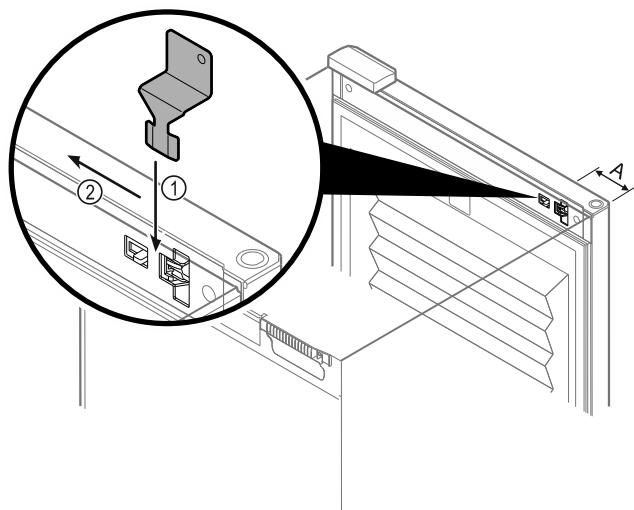

Fig. 101
- Insert the emergency release key in the specified position Fig. 101 (A)  $\approx 100$  mm.
- Insert the emergency release key Fig. 101 (1) between the door and the body of the appliance from above to the end stop.
- Pull the emergency release key towards the hinge. Fig. 101 (2)